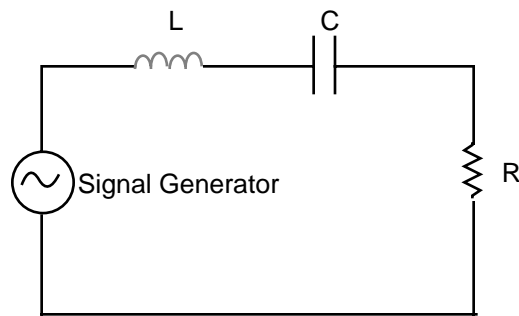

Fig. 3.1
Connect the circuit of Fig. 3.1. Choose an inductor and calculate C to give a resonant frequency between 1 kHz and 100 kHz. The resistance R should be chosen so that  $Q > 2$ .
- Calculate the impedance of the series LRC circuit in Fig 3.1.